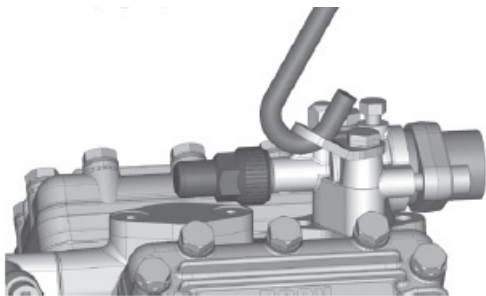
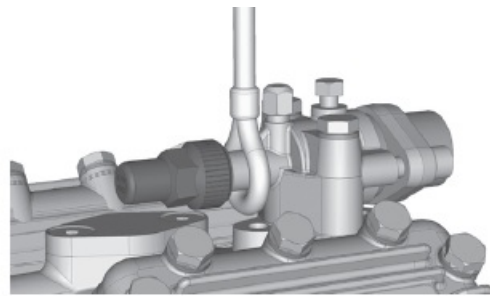

Fig. 4
Fig. 5
- Transport and suspension unit on the eyebolt (Fig. 4) or direct on the discharge line valve (Fig. 5).